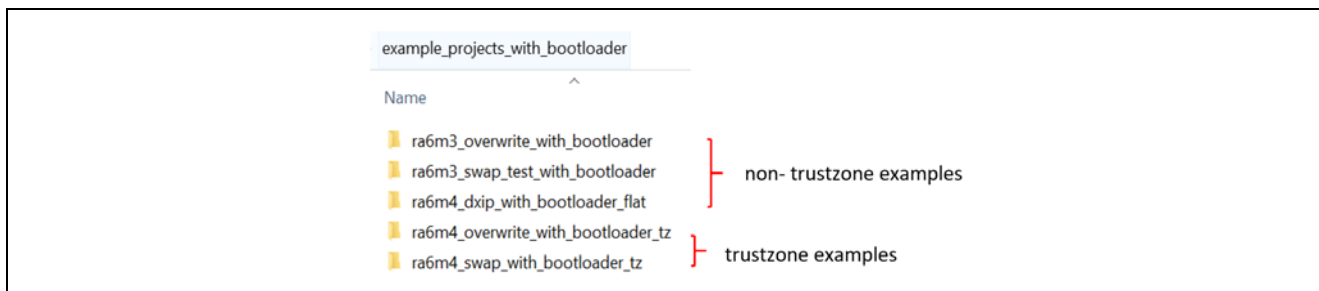

Figure 9. Example Projects with Bootloader Support
- From the included example project sets (refer to Figure 9), choose the set of projects you would like to exercise first.